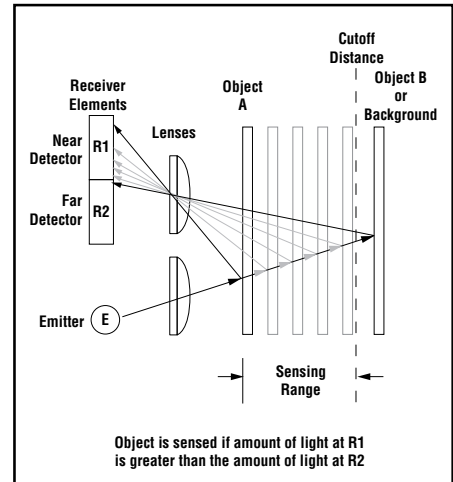

Figure 1. Fixed-field concept
The T30FF compares the reflections of its emitted light beam (E) from an object back to the sensor's two differently aimed detectors, R1 and R2 (see Figure 1). If the near detector (R1) light signal is stronger than the far detector (R2) light signal (see object A, closer than the cutoff distance), the sensor responds to the object. If the far detector (R2) light signal is stronger than the near detector (R1) light signal (see object B, beyond the cutoff distance), the sensor ignores the object.